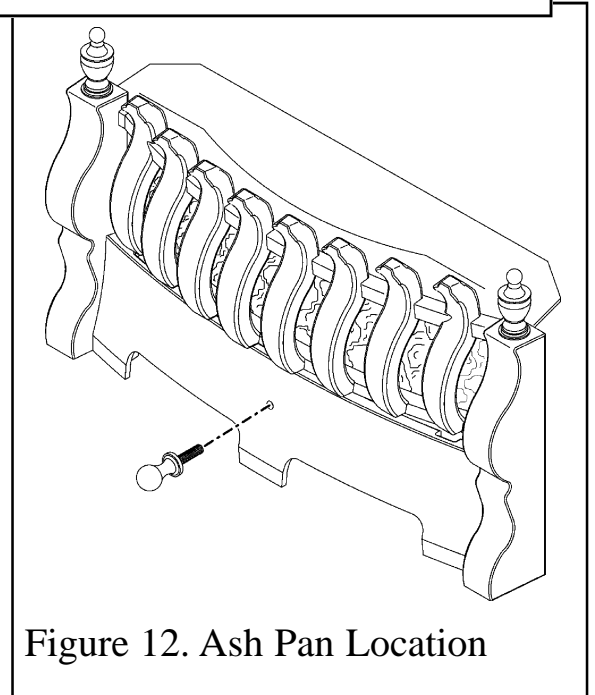

Figure 12. Ash Pan Location
2. Unscrew and remove the decorative control knob from the front of the 'ash pan' casting (See figure 12). Remove the 'ash pan' casting.